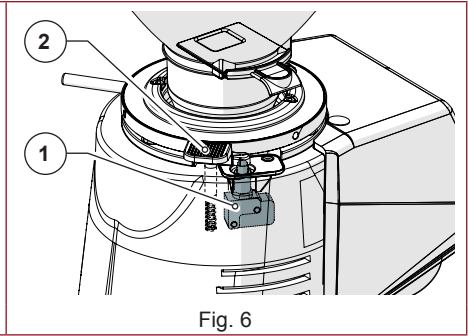

Fig. 6
- **Microswitch for detection of grinding degree variation (Fig. 6):** This microswitch (Part 1), enabled each time the lock lever is pressed (Part 2), is used to inform the control system that a change in the grinding degree may have occurred since the last dose was dispensed and enables the "Dispense dose" mode.